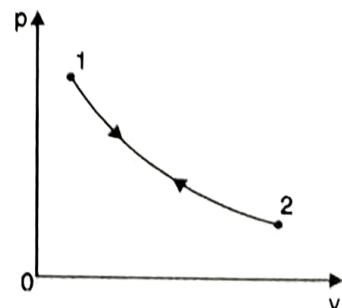

Fig. 1.13 Reversible process.
3. Reversible Process: A process is said to be reversible if the system passes through a continuous series of equilibrium states. In other words, a process is called reversible if the initial state together with all energies transferred or transformed during the process can be completely restored in both system and environment. A process will be reversible only if there is no friction in the system. A reversible process is shown in Fig. 1.13. Some examples of reversible process are: